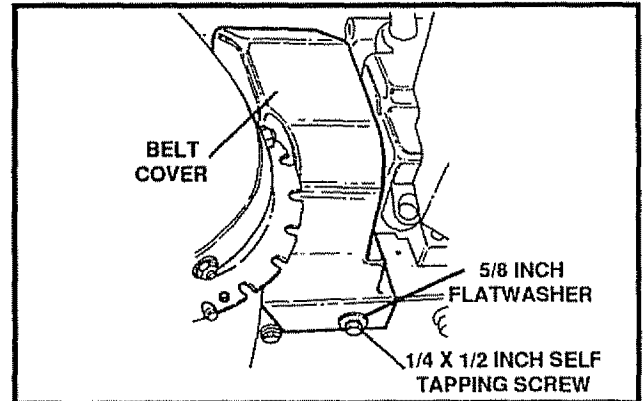

FIG. 27
- Remove the belt cover (See Fig. 27, page 20).
- Remove the belt cover (See Fig. 27).
- Remove the belt cover by removing the screw and flatwasher on the left and right hand sides. See Fig. 27 page 20.